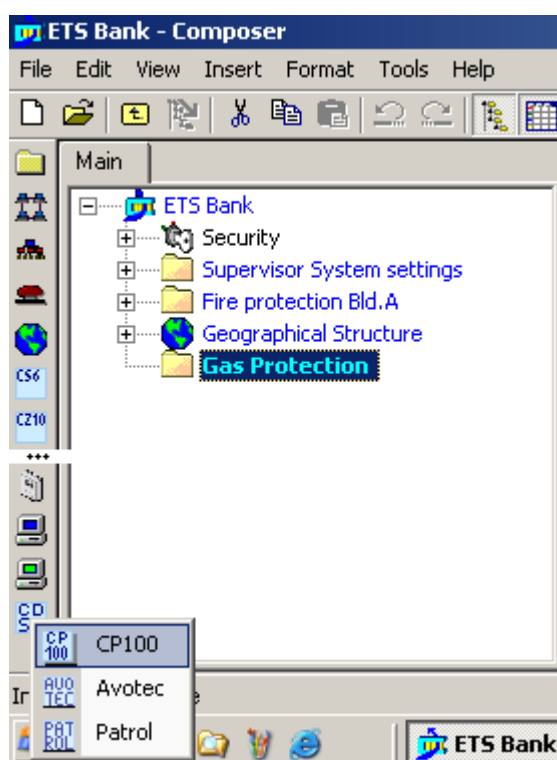

Fig. 14 Adding an CDSS subsystem
2. Select the CDSS icon  and select the model, which can be one of the customised models currently available (see Fig. 14):